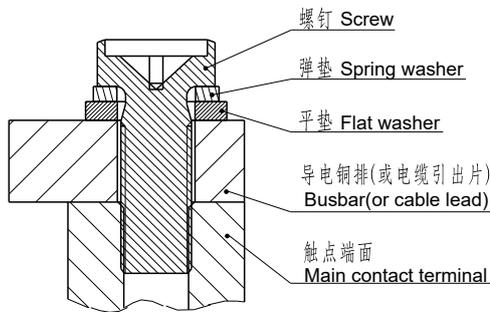

图1(Fig1)
9.当产品使用1个及多个导电铜排连接时，请确保导电铜排与触点端面紧密贴合（多个铜排需确保大电流的导电铜排最贴近触点端面，小电流的导电铜排其次），然后是平垫圈、弹簧垫圈、螺钉。不正确的连接顺序可能造成严重过热，参考下图1:
When the product is connected with one or more conductive copper bars, please ensure that the conductive busbars closely fit the contact terminal surface (The conductive copper bars with high current must be closest to the contact terminal surface if there are multiple copper bars and then conductive busbars with low current), followed by flat washers, spring washers and screws. Incorrect connection sequence perhaps give rise to severe overheating. Refer to Figure 1 as follows: